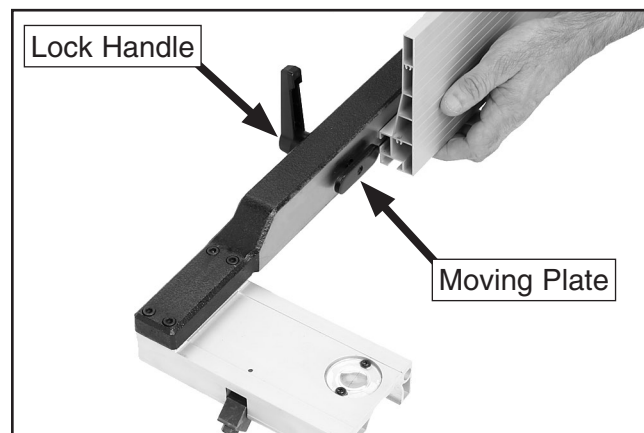

Figure 15. Installing resaw fence.
23. Insert the lock handle with washer through the hole in the fence and attach the moving plate (**Figure 15**) on the other side.
24. Slide the resaw fence over the moving plate as shown in **Figure 15**, center it with your original fence, then lock it in position by tightening the lock handle.